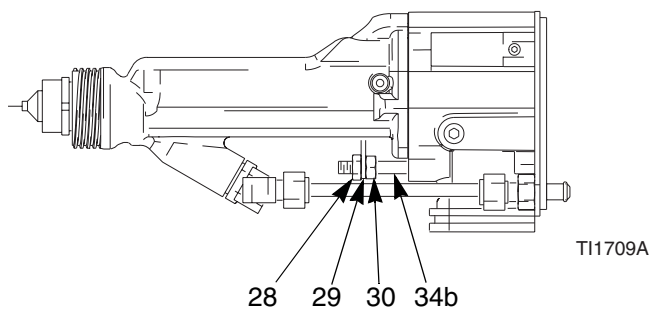

Fig. 25. Actuator Arm
- 2. Remove the air cap, page 34. Remove the gun shroud (2).
- 3. Remove the jam nut (28), actuator arm (29), and adjustment nut (30). See FIGURE 25. The fluid nozzle (4) must be in place when removing or installing the jam nut and actuator arm.
1. Install the adjustment nut (30), actuator arm (29), and jam nut (28) onto the piston rod (34b). Note that the jam nut (28) has a slightly larger hex and a thinner profile than the adjustment nut (30). See FIGURE 25 on page 38.